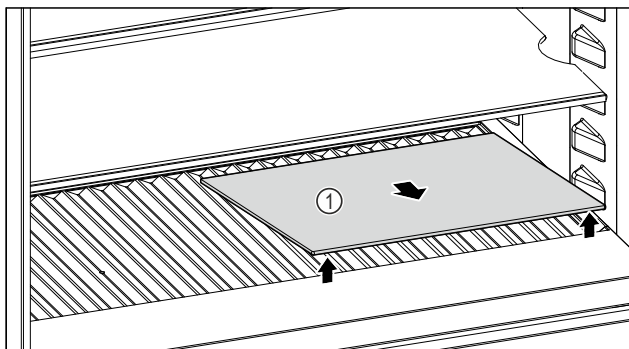

Fig. 254
- Lift the glass shelf Fig. 254 (1) at the front and remove.
- Store the glass shelf Fig. 254 (1) in a safe place outside the appliance.